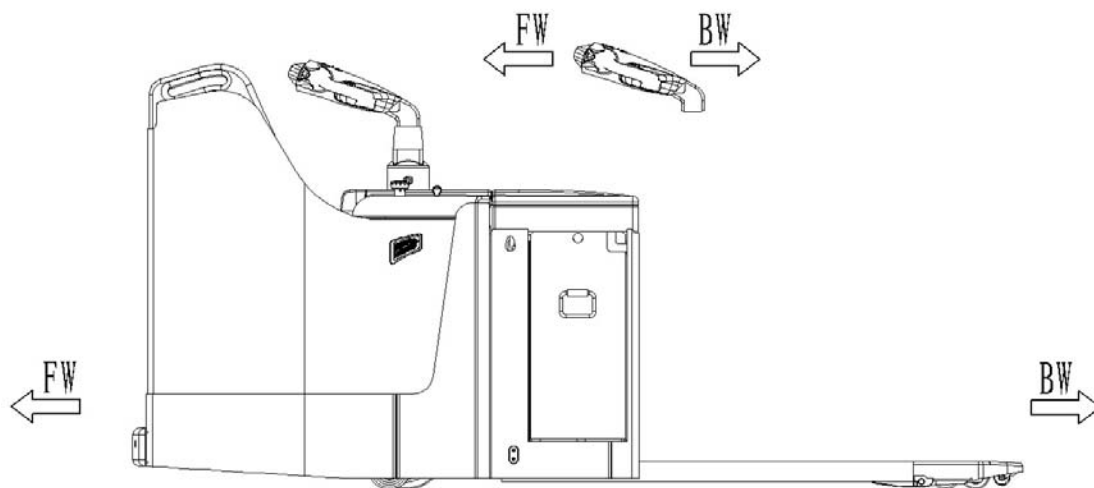

Fig. 15: Operating direction
After starting the truck by turning on the key switch (18), move the tiller to the operating position (fig.15). Turn the accelerator button to the desired direction forward 'Fw.' or backwards Bw.'(fig. 15).